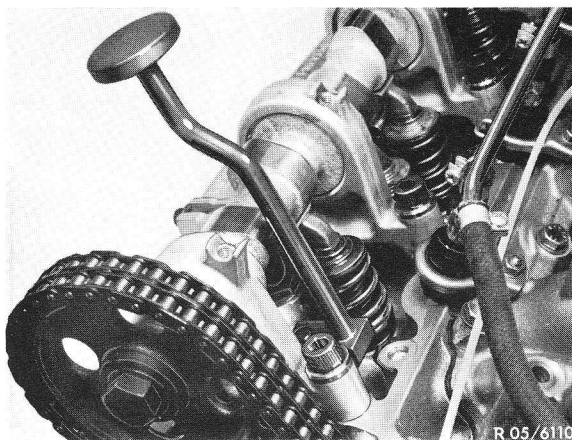

Fig. 4
- 8 Slide on valve shaft seal with assembly mandrel (Fig. 4).